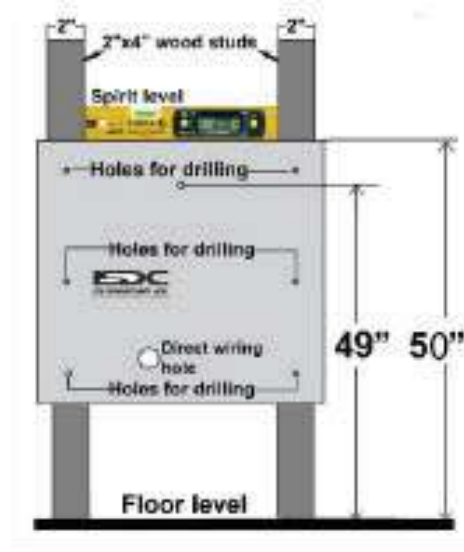

Figure 15: Mark and drill 6 mounting holes using 5/32-inch wood drill bit.
- Place the template on the wall aligning the holes for drilling to centre of the 2"x4" two wood studs as shown in Figure 15 .
- Place the template such that the top surface of template is at the height of 50" from the floor as shown in Figure 15 .
- Ensure the level of the template using spirit level as shown in Figure 15 .